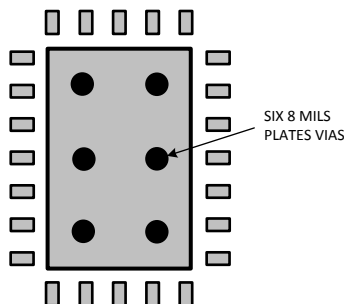

Figure 8. Recommended Land Pattern
2. Prepare the PCB with a top-side land pattern, as shown in Figure 8.
3. Place the recommended number of plated-through holes in the area of the thermal pad. These holes should be 8 mils max. in diameter. They are kept small so that solder wicking through the holes is not a problem during reflow. The minimum recommended number of holes for the 24-pin LLP is six, as shown in Figure 8.